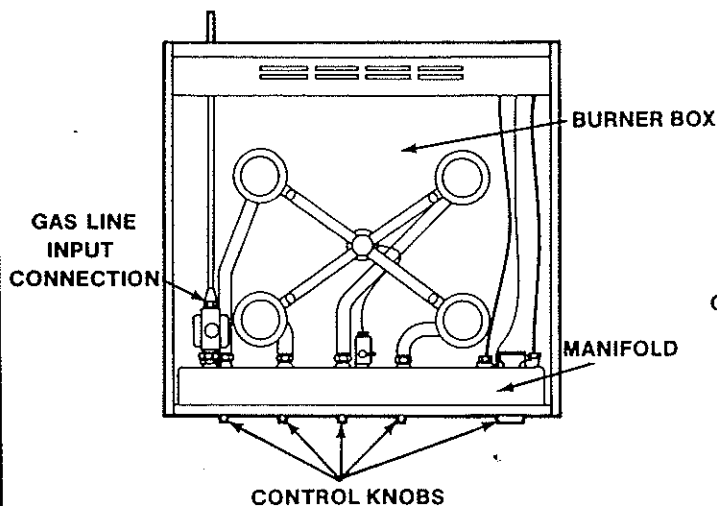

Figure 6
- d. unscrew gas line input connection to manifold, (Figure 6).